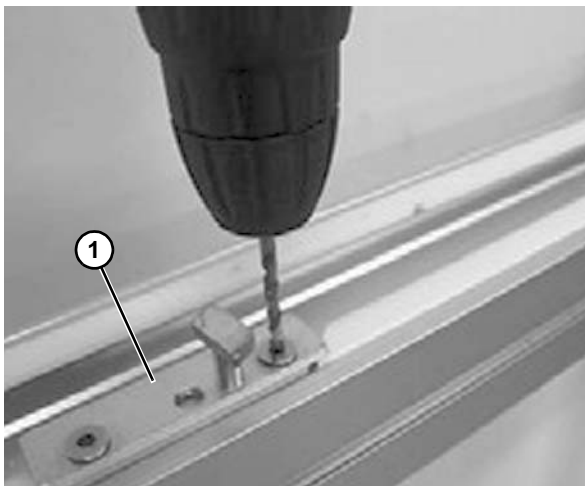

Figure 38
1. Drill two holes near the beginning of each slide rail section. Use the drill fixture (**Figure 38, item 1**) to ensure clean-cut holes and the correct location of the holes. The holes must be at the leading edge of the joint piece, in the direction of travel, to hold the slide rail in place when the conveyor is in use. Use a well sharpened 4.3mm, #18, or 11/64" drill bit.